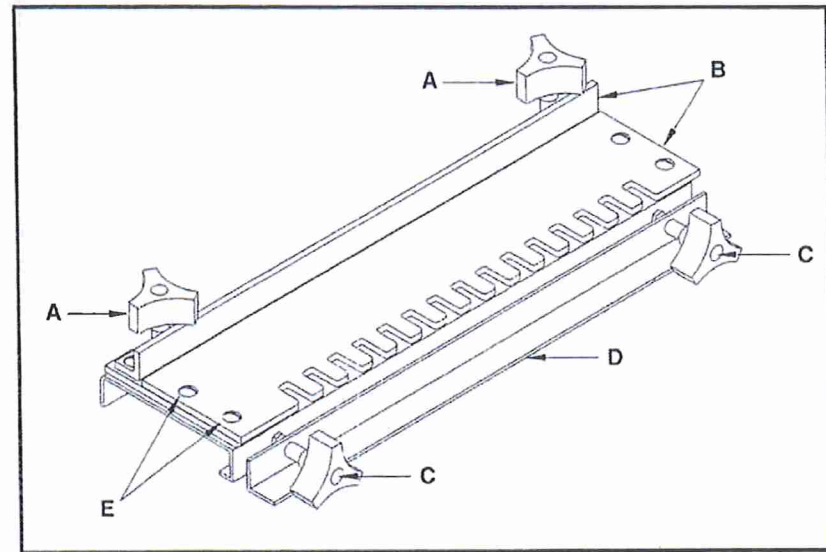

Fig. 3
1. Remove the wing nuts and spacers (A) Fig. 3, from the top clamp bar.
2. Lift off the finger templet-bracket-top clamp bar assembly (B) Fig. 3.
4. Remove the wing nuts and spacers (C) Fig. 3, from the front clamp bar (D) Fig. 3.
1. Remove four screws (E) Fig. 3, and Finger Templet furnished with your dovetail templet.